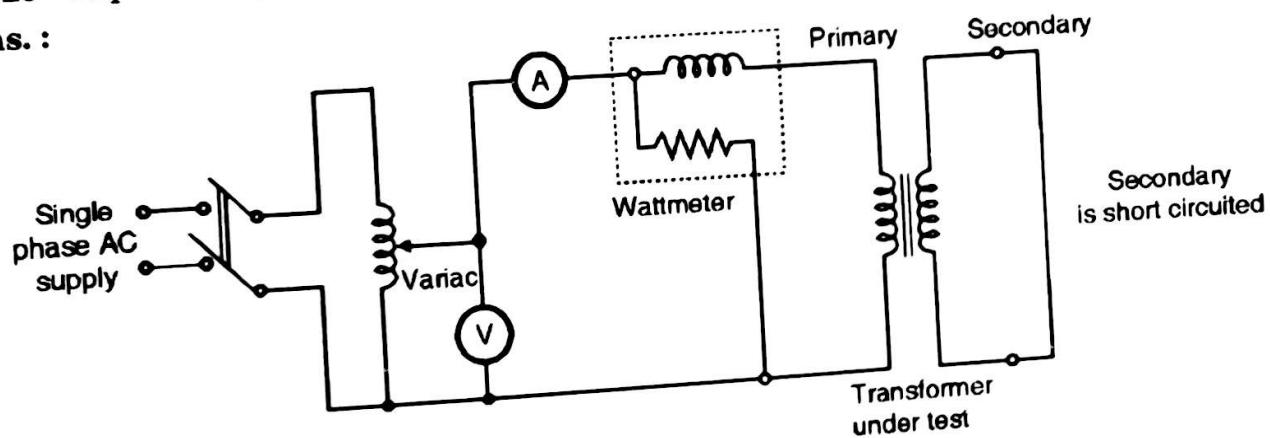

Fig. 4.12
1. Connect the circuit as shown in Fig. 4.12.